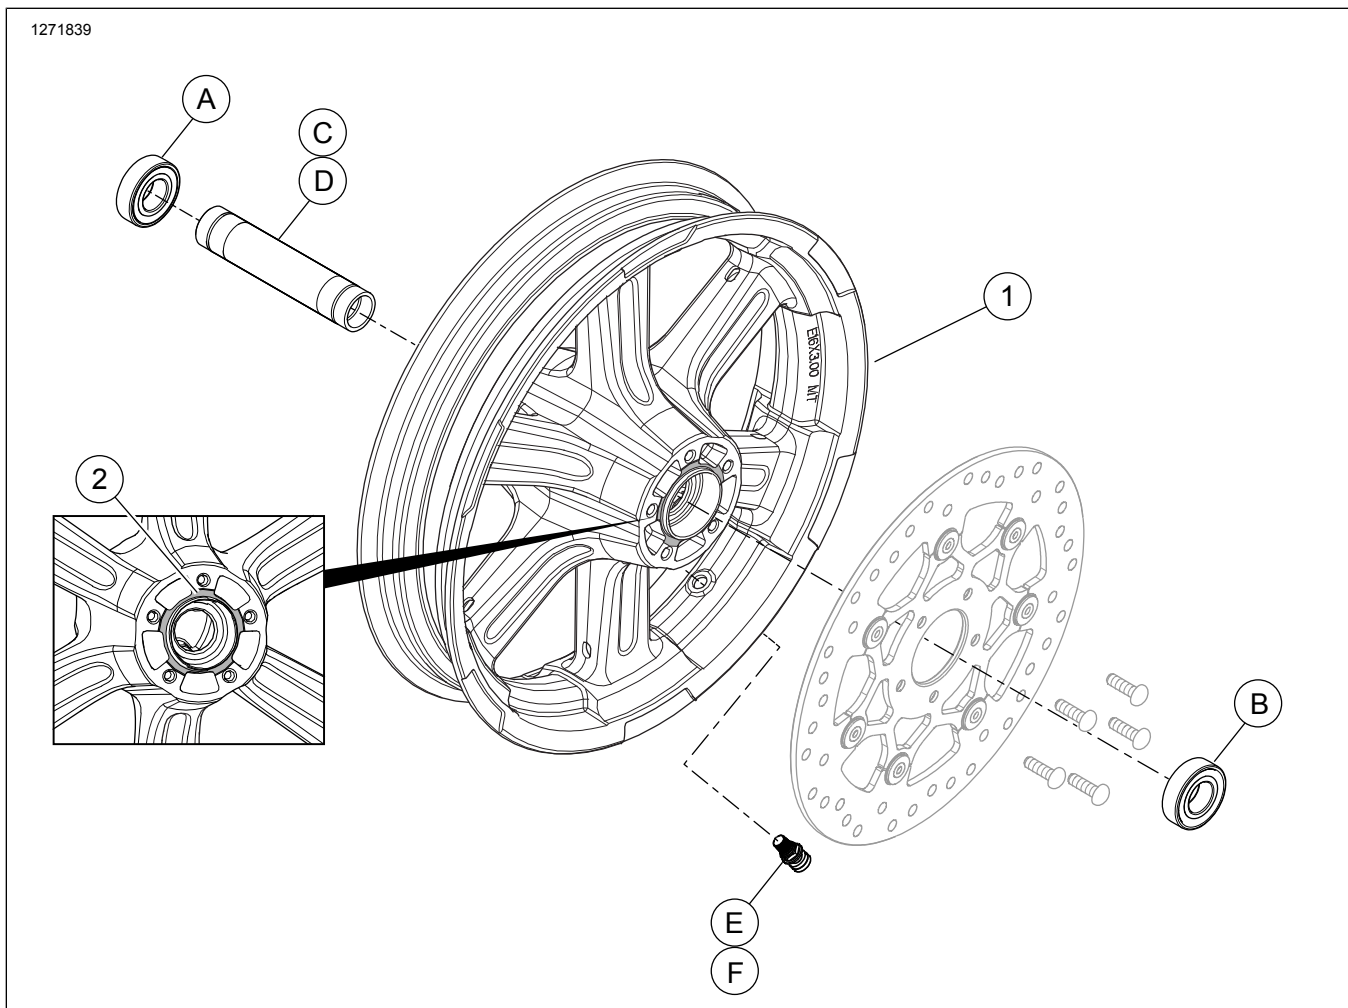

Figure 1. Service Parts: Rear Wheels (16-inch Shown)
See Figure 1 and Table 2.
2. Figure 1 Install valve stem assembly on wheel. See TIRES in the service manual.